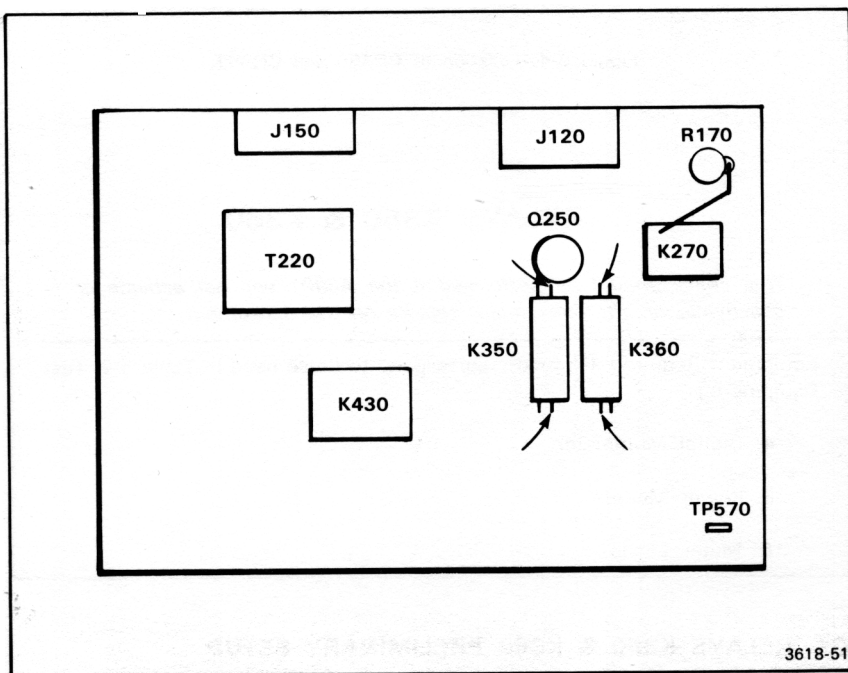

Figure 5-5. Location of K350 and K360.
- b. Locate K350 and K360. See Figure 5-5.
- c. Connect the DMM to the terminals in the centers of the opposite ends of K350 as shown by the arrows in Figure 5-5.
Connect the DMM to the center terminals on opposite ends of K360 as shown by the arrows in Figure 5-5.
- n. Watch the armature of K430 (shown on Fig. 5-5 in step C2).